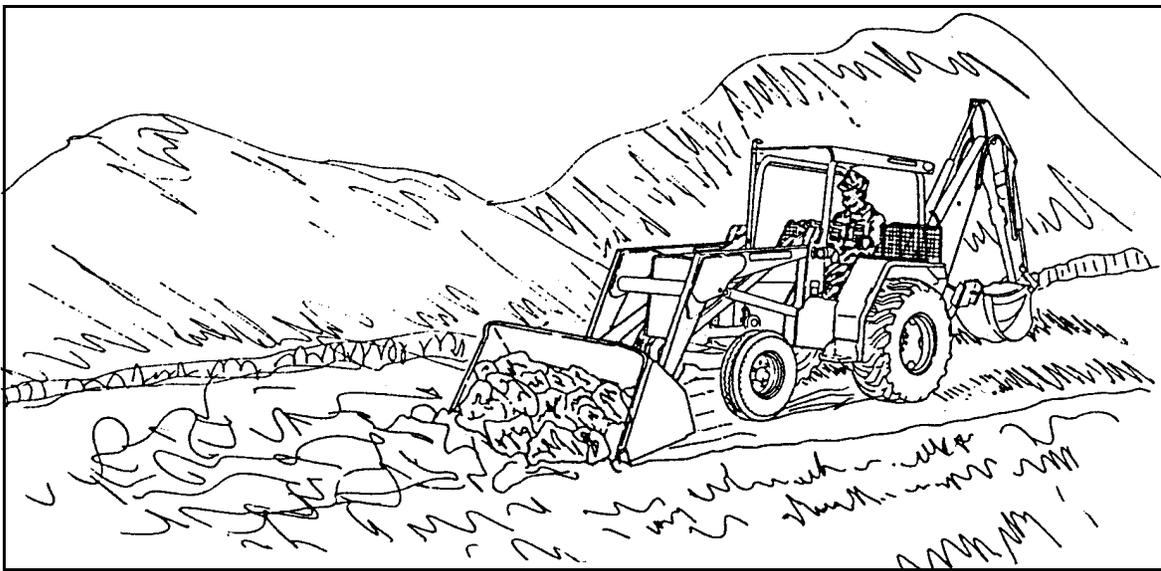

Figure 8-7. Leveling the Ground With a Loader Bucket
- Fill all holes and hollows and loosen up any high spots before attempting to finish the grade (*Figure 8-7*).